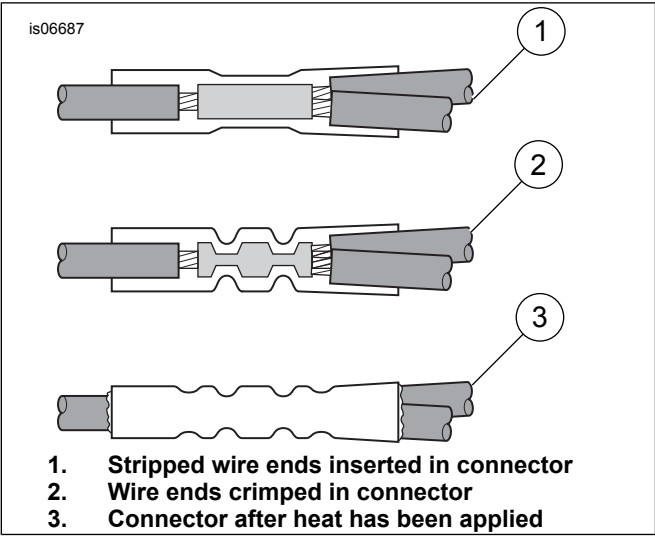

Figure 6. Installing Sealed Butt Splice Connectors
20. See Figure 6 connector appendix of the service manual. Slide the heat-shrink tubing over the black wire of the kit harness, and crimp the electrical connector to the wire with a Crimp Tool, Part No. H-D 38125-8.
21. Bring both lamp wires (4) to the connector. Trim the wires, allowing approximately 1 inch (25 mm) of the wire to extend past the butt splice connector. Trim the conduit (5) approximately 1-1/2 in. (38 mm) back from the end of the wire.
23. Insert the ends of both lamp wires (4) into the electrical connector (3) and crimp the wires to the connector with the crimp tool.